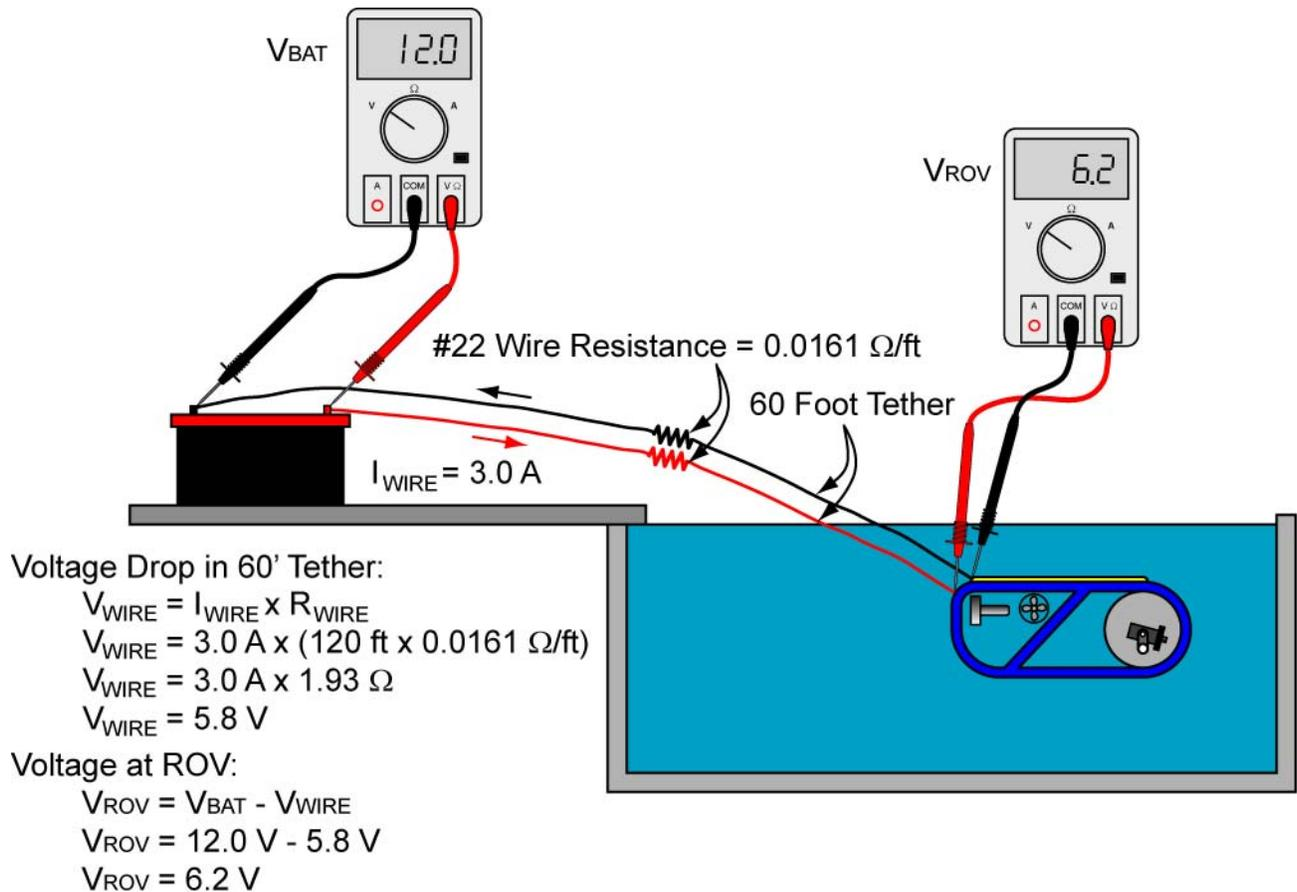

Figure 22: Voltage Drop in a 60' #22 Wire Tether
- Although wires are considered conductors, every wire has an internal resistance. With this resistance, there is an associated power loss and voltage drop. So the voltage at the end of a tether is less than the voltage at power source. For example in Figures 22 and 23, a 60 foot long #22 gauge wire tether has an internal resistance of 0.0161 Ω /ft. The internal resistance produces a 5.8 V voltage drop across the tether, leaving 6.2 volts for the ROV.